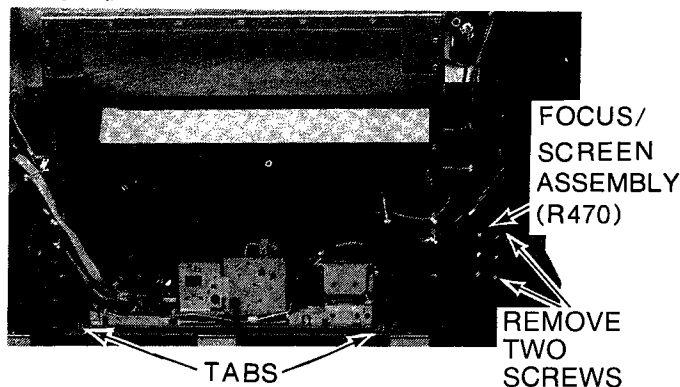

Fig. 18 — CTC 132 Chassis Removal
1. Lift Tabs (Two) located on each side, rear edge of chassis (Fig. 18) and pull chassis to the rear to gain access to interconnecting plug and cable assemblies.